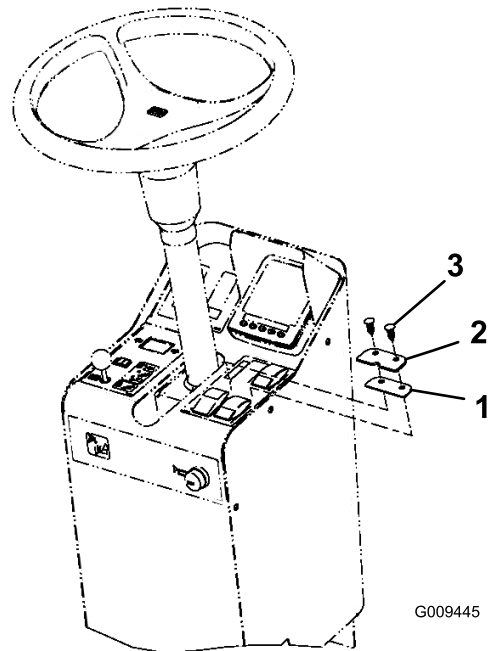

Figure 5
1. Carefully puncture the decal material on the console panel to expose the existing holes in front of the engine speed selector and engine speed increment/decrement switches (Figure 5).
2. Position the spacer plate onto the console panel so the holes align with the holes in the console and the back (straight) edge of the spacer plate aligns with the switch base (Figure 5).
3. While aligning the mounting holes, position the stop plate onto the spacer plate. The stop plate should be positioned under the switches (Figure 5).
4. Secure the plates to the console with the plastic plugs (Figure 5).